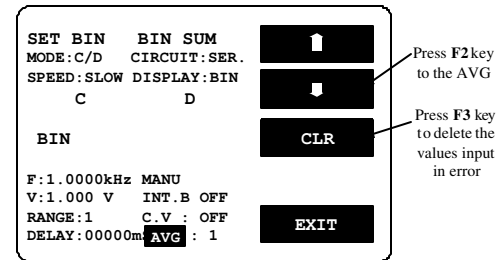

Figure 8-13
- Press CLR key shown as Figure 8-13 below. For further details, please refer to 4-5-7.